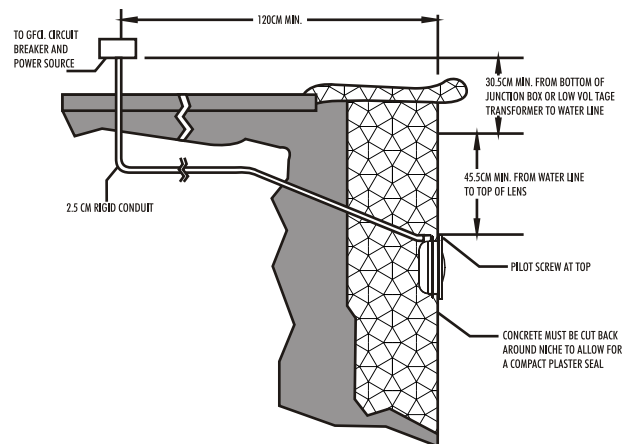

Figure 1.
#### ● Preparatory steps which must be completed by the electrician before light is installed, see Figure 1.
- a. The junction box, or the low voltage transformer for 12 volt Underwater Light model is to be located at least 120CM from the edge of the pool, see Figure 1.
- b. The mounting bracket must be properly installed so that the top edge of the Underwater Light lens is at least 45CM below the surface of the water in the pool, see Figure 1.
1. Locate position on a vertical wall where light is to be installed. The top of the light lens must be 45CM below normal water level, see Figure 1.